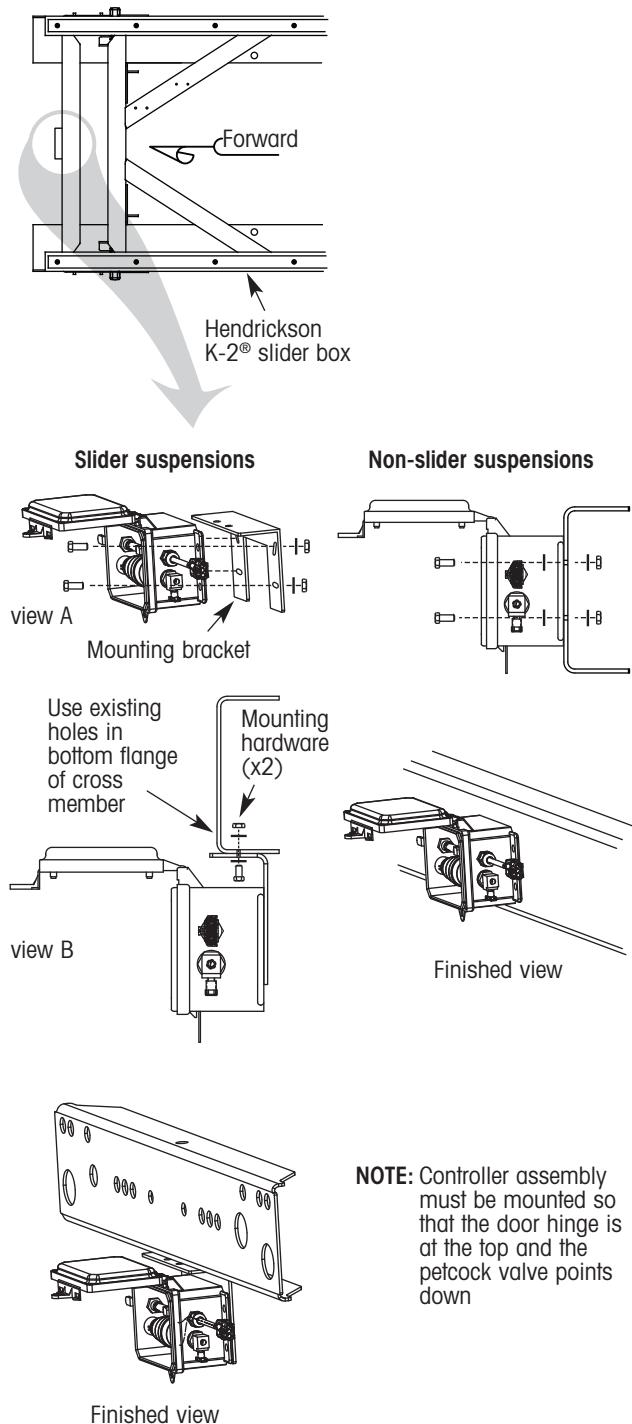

Figure 2. Installing the new TIREMAAX CP controller assembly
Hendrickson recommends the forwardmost cross member as the controller assembly mounting location (figure 2). A mounting bracket is included in this kit so the controller assembly can be mounted
without drilling holes in the cross member. On slider suspensions, the bracket and controller assembly must be mounted below the cross member as shown in figure 2 to avoid interference with the slider stop bar. On non-slider suspensions, the controller can be mounted below the cross member as shown in figure 2 or flush mounted to the vertical surface of the cross member if desired, since slider stop bar interference is not an issue.
1. Attach each corner of the controller assembly to the bracket with the four $\frac{5}{16}$ -inch bolts, washers and nuts as shown in figure 2, view A. Orient the enclosure so that the door hinge is at the top and the petcock valve points down.
2. Attach the controller and bracket assembly to the existing holes in the bottom surface of the cross member as shown in figure 2, view B.
⚠ WARNING Failure to properly orient the controller and mounting bracket as shown in figure 2 and described above will result in slider stop bar interference and controller assembly damage.
Use the slider assembly mounting method described above, or attach each corner of the controller assembly directly to the vertical surface of the cross member with the four $\frac{5}{16}$ -inch bolts, washers and nuts (figure 2). Orient the enclosure so that the door hinge is at the top and the petcock valve points down (figure 2).
⚠ CAUTION: The controller assembly must be mounted so that the door hinge is at the top and the petcock valve points down (figure 2).